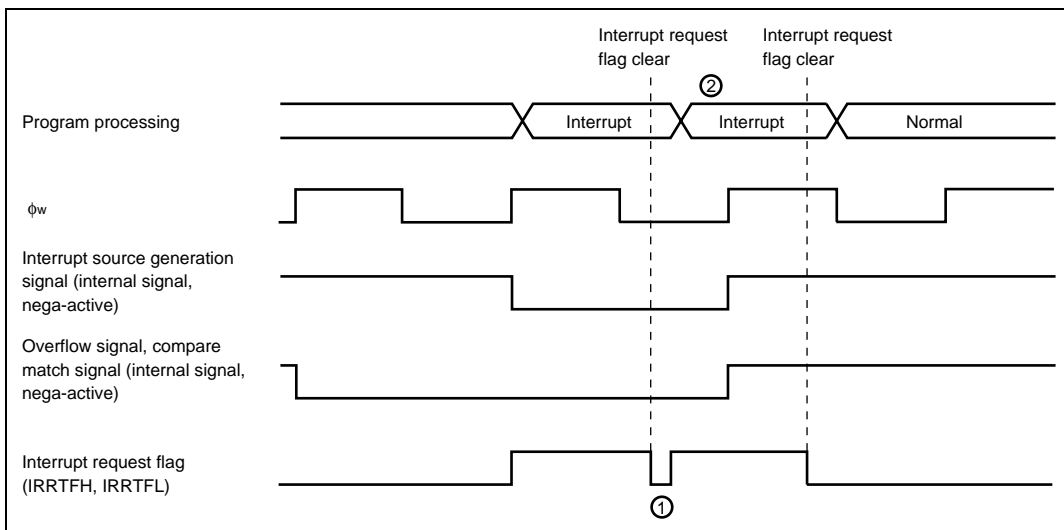

Figure 9.6 Clear Interrupt Request Flag when Interrupt Source Generation Signal is Valid
Clear Timer FH, Timer FL Interrupt Request Flags (IRRTFH, IRRFTL), Timer Overflow Flags H, L (OVFH, OVFL), and Compare Match Flags H, L (CMFH, CMFL): When $\phi_w/4$ is selected as the internal clock, “Interrupt source generation signal” will be operated with ϕ_w and the signal will be outputted with ϕ_w width. And, “Overflow signal” and “Compare match signal” are controlled with 2 cycles of ϕ_w signals. Those signals are outputted with 2 cycles width of ϕ_w (figure 9.6)
In active (high-speed, medium-speed) mode, even if you cleared interrupt request flag during the term of validity of “Interrupt source generation signal”, same interrupt request flag is set. (1 in figure 9.6) And, the timer overflow flag and compare match flag cannot be cleared during the term of validity of “Overflow signal” and “Compare match signal”.
For interrupt request flag is set right after interrupt request is cleared, interrupt process to one time timer FH, timer FL interrupt might be repeated. (2 in figure 9.6) Therefore, to definitely clear interrupt request flag in active (high-speed, medium-speed) mode, clear should be processed after the time that calculated with below (1) formula. And, to definitely clear timer overflow flag and compare match flag, clear should be processed after read timer control status register F (TCSRFB) after the time that calculated with below (1) formula.